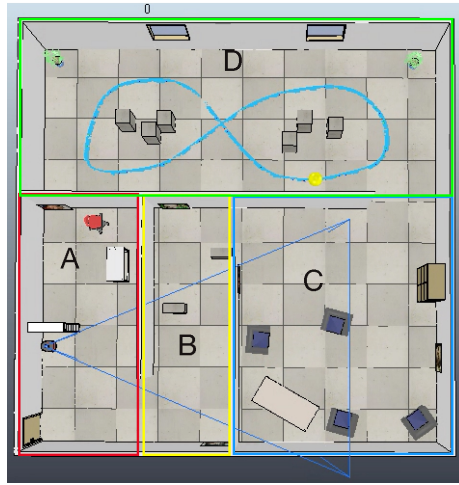

Figure 2: divided areas
- 3 The room is divided into several areas, as Fig 2 shows, let the robot judge which area it locates. 20%